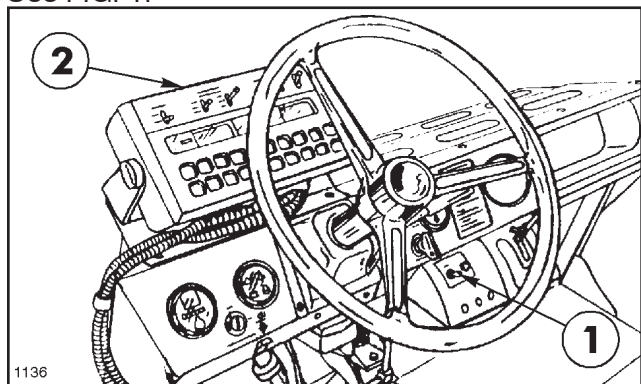

FIG. 1
**ELECTRIC CLUTCH/PUMP SWITCH:** This switch located on the lower dash panel, when moved to the “ON” position, engages the pump drive belt. Move the switch to the “OFF” position to disengage the pump drive belt. See FIG. 1.
**CONSOLE COMPUTER:** Receives data for desired rate of application and automatically maintains that rate, regardless of vehicle speed. See FIG. 1.